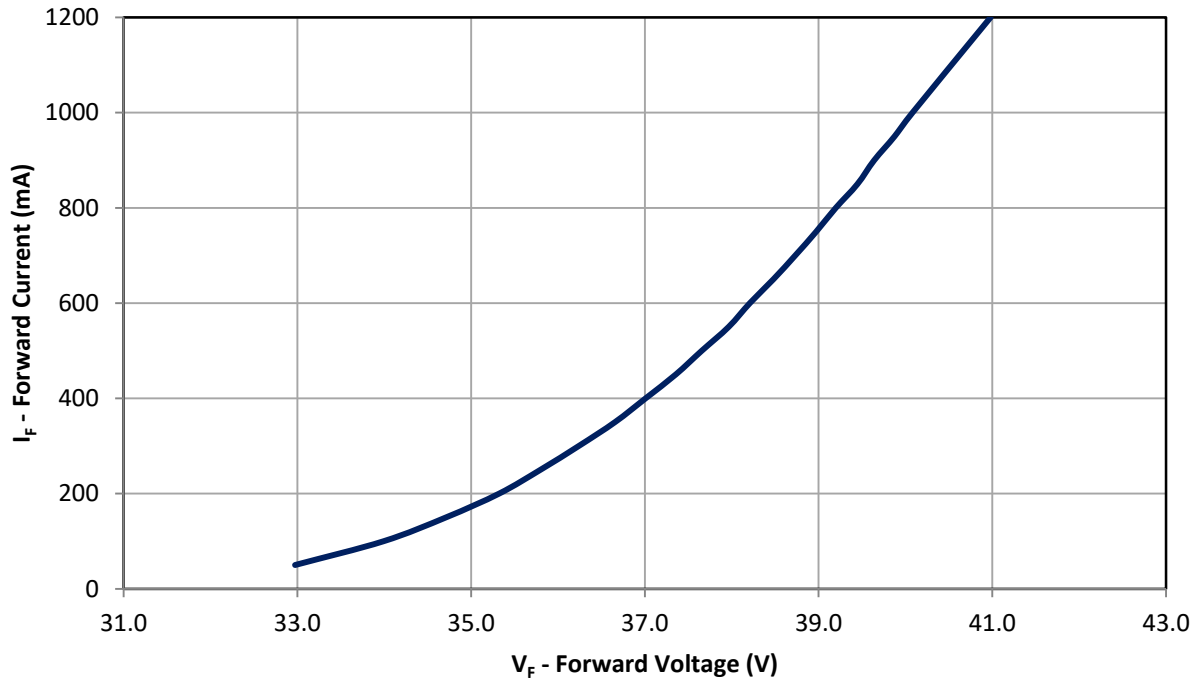

Figure 10: Typical forward current vs. forward voltage @ $T_c = 25^\circ\text{C}$.
- Maximum DC forward current (per die) is determined by the overall thermal resistance and ambient temperature. Follow the curves in Figure 10 for current derating.
Note for Figure 10: